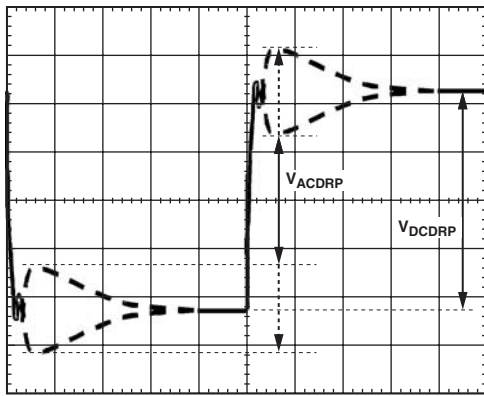

Figure 8. AC Loadline Waveform
15. This waveform should look something like Figure 8. Use the horizontal cursors to measure V_{ACDRP} and V_{DCDRP} as shown. Do not measure the undershoot or overshoot that happens immediately after the step.